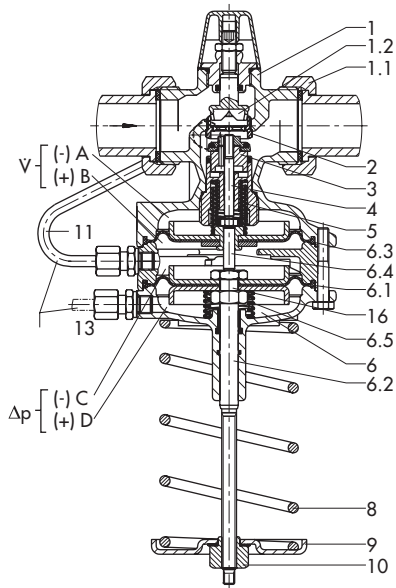
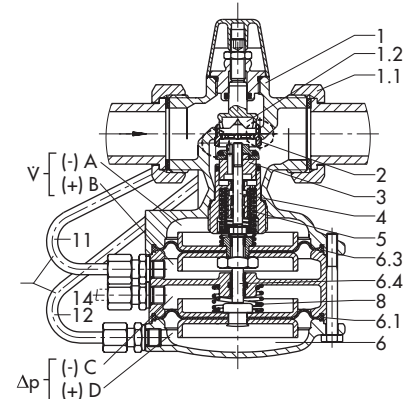

Fig. 3: Type 46-7
Fig. 6: Type 47-4
Legend for Fig. 3 to Fig. 6
**Note on Fig. 3 to Fig. 6:** the control lines are turned into the plane of projection.